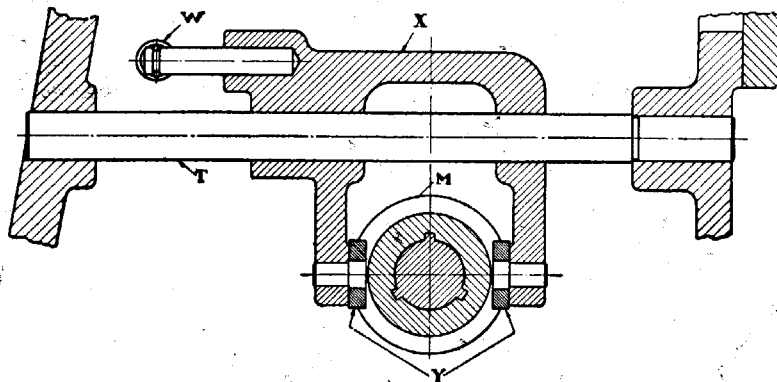

Fig. 6—Section Through Column Showing Clutch Shifter.
6. Drive the shifter shaft "T" (Fig. 6) through the column from left to right.
7. Remove spring "W" from the spring pin and wire or prop shifter "X" in a position so that shoes "Y-Y" are out of the slot in the spool "M". (Fig. 6.)